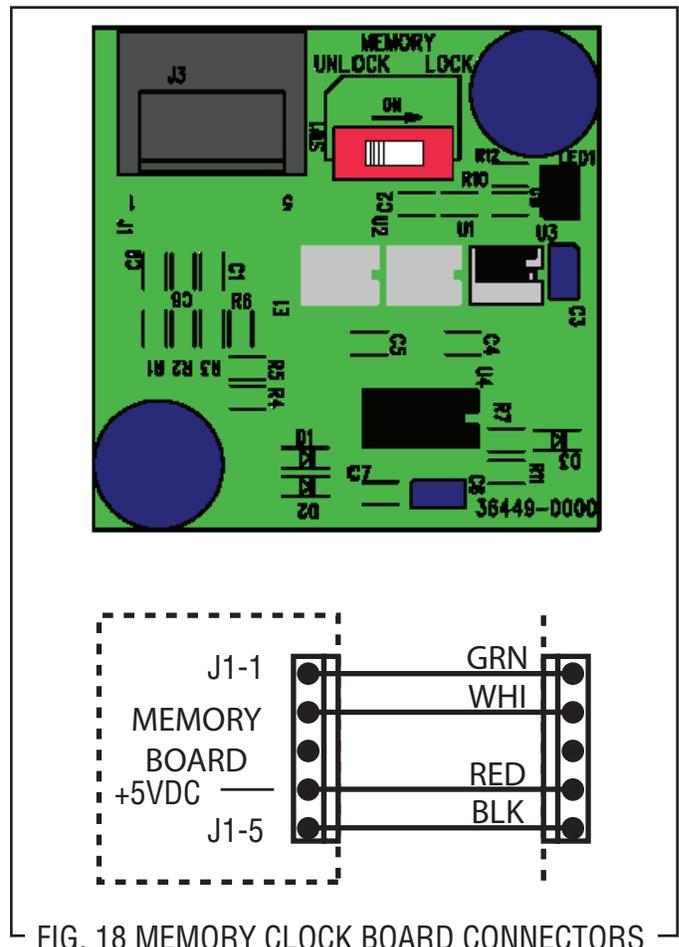

FIG. 18 MEMORY CLOCK BOARD CONNECTORS
7. Refer to Fig. 18 when reconnecting the wires.